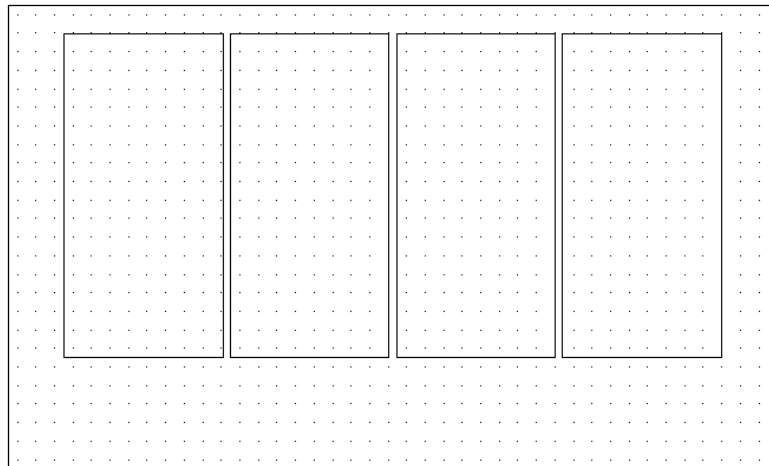

Figure 4-62
5. Select the *Snap* tab and select the “Snap to Grid” option. Click [OK]. Select *Draw/Rectangle/3 Point*. Place the cursor at the bottom left and left mouse click. Draw a horizontal line to the right, and then without clicking, type **1640<0 (500,<0)** on the keyboard and press <Enter>. Move the mouse upwards and, without clicking the mouse, type **980 (300)** on the keyboard and press <Enter>. Select *View/Zoom All*. You now have a rectangle 1640x980 (500x300) on the screen.
6. This small orchard is divided into blocks 330ft (100m) x 700ft (210m). Draw a *3-point Rectangle* in the same manner as above, so the smaller rectangle is inside the larger one. Start the top right corner of this rectangle 120ft (36m) (6 grid points) from the right boundary and 60ft (18m) (3 grid points) from the top boundary. Notice that only every 2nd grid point along the X-axis is shown at this zoom. Type **330,<180 (100,<180)** for the width and **700 (210)** for the length of the rectangle. Select the rectangle, then select *Modify/Copy/Linear* and enter **3**. Click [OK]. Select the top right corner as the reference point then drag the 3 copies to the left until the left most copy is about 120ft (36m) (6 grid points) from the orchard left boundary, i.e. the 4 rectangles are evenly spaced across as in Figure 4-62, and left click. The block rectangles are only 20-40ft (6-12m) apart. This distance between blocks represents a shelterbelt; the grid represents tree spacing within the block.